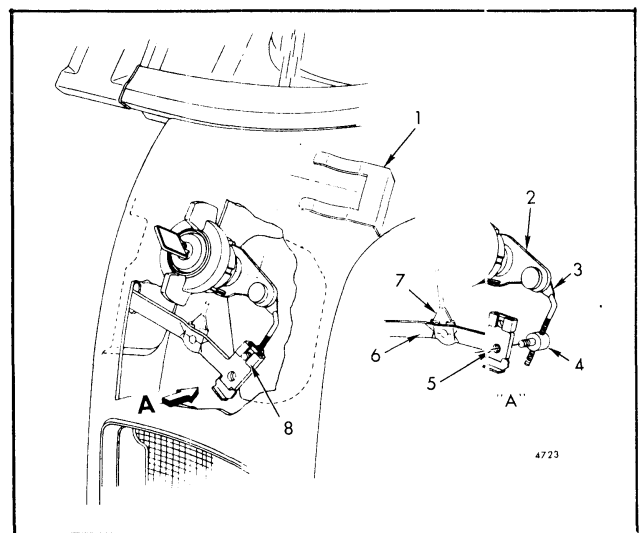

Fig. 7-110-Lock and Release Switch Assembly - Manual Gate
3. Working around right pillar inner panel, disengage tail gate window stop cable and switch pawl rod at lock lever (Fig. 7-110).
The exterior control switch and release assembly for manual tail gate combines the lock cylinder and switch assembly into one integral unit and is held in place by a flat spring retaining clip (Fig. 7-110). The key cylinder operates the glass electrically through the opening cycle (first position clockwise) and closing cycle (first position counterclockwise). The winged knob rotates only in a clockwise direction for mechanical release of the tail gate, however, the window must be raised approximately 8 inches before the tail gate may be released with the knob. The key is not required for operation of the knob, provided the window is opened by the instrument panel control switch.
The control knob is connected to the lock lever by a pawl, connecting rod and swivel (Fig. 7-110). The swivel is adjustable on the connecting rod in order to provide correct switch-to-lock lever relationship.
- 4. On manual tail gate control switches, disengage control switch-to-lock lever link. Remove control switch retaining clip and withdraw switch and cylinder unit outward through piercing in quarter panel (Fig. 7-110).
- 1. With key cylinder in centered (vertical) position, withdraw key sufficiently to render cylinder inoperative (Fig. 7-110).
- 4. Adjust swivel on pawl-to-lock lever rod to align with pilot hole on lock lever (Item "5", Fig. 7-110).
- 5. Rotate pawl upward and engage swivel in clip on lock lever (Item "8", Fig. 7-110).